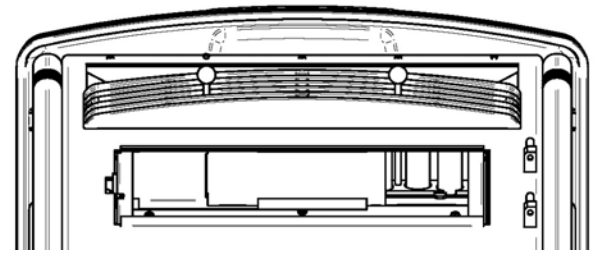

Figure 46
- Open the door and remove the baffle from the firebox. Slide each side of the baffle toward the center to remove(Figure 46). Close the door.
- b. **Baffle**: Remove the baffle and scrape off ashes. Slide both sides toward the center to remove the baffle(Figure 46) Use a vacuum is necessary. In some cases, you will need to remove creosote on the baffle, which can accumulate rapidly under certain conditions. A small wire brush can be used. It is important to remove this creosote because it is highly combustible and could cause premature corrosion.